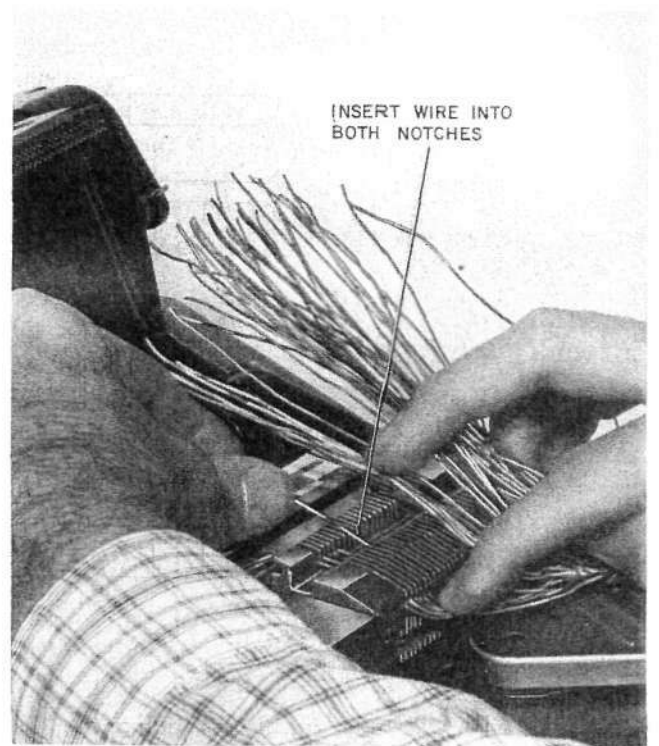

Fig. 17—Inserting Wires in Comb
- (m) Press the first 25 wires of the cable into notches 1 through 25 in the comb using Table B or the color chart as a guide (Fig. 17). Pull the end of each wire to one side to hold it in its notch (Fig. 18). Arrange the wires neatly so there is a minimum of slack and tangling.